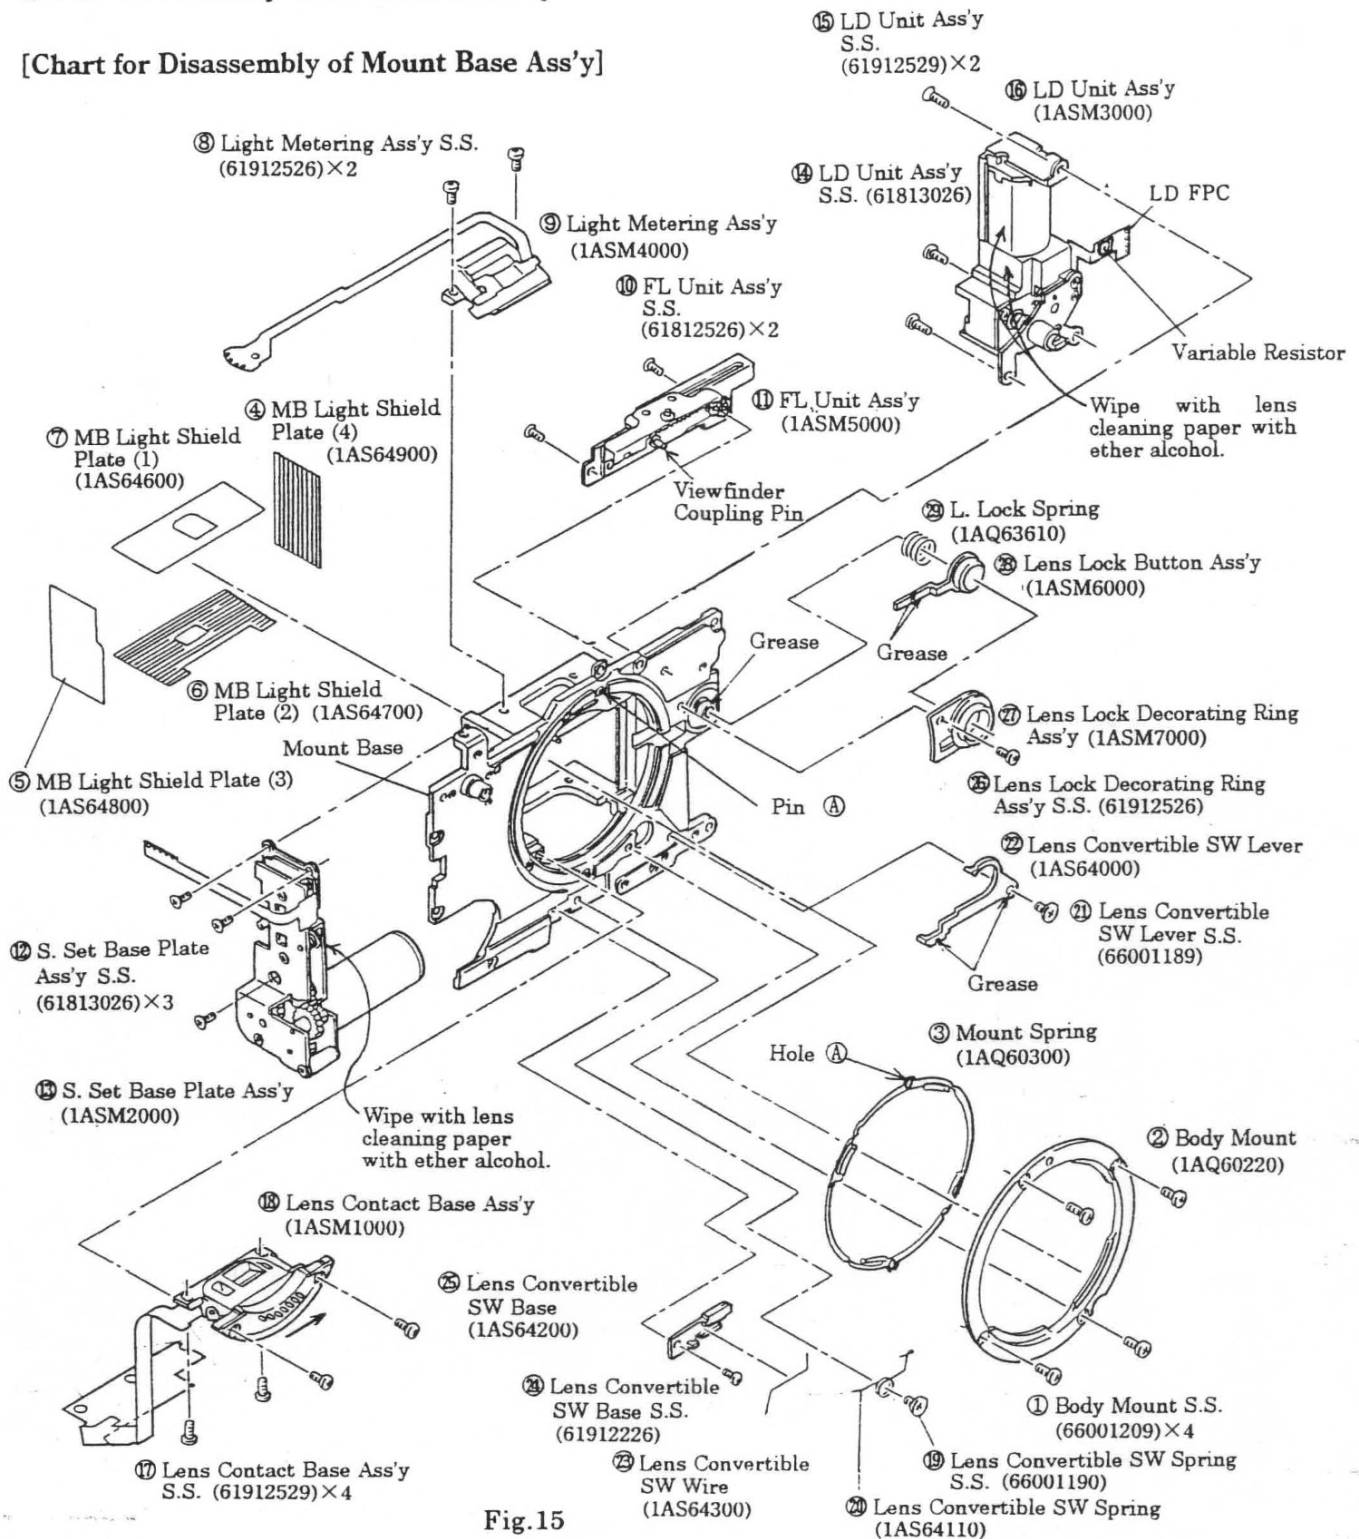

Fig.15
- 1) Remove parts in the numerical order of ① to ⑨ shown in Fig. 15.
- 3) Remove parts in the numerical order of ⑩ to ㉙ shown in Fig. 15.
- Do not use any of the MB Light Shield Plate (1) (1AS64600), MB Light Shield Plate (2) (1AS64700), MB Light Shield Plate (3) (1AS64800) and MB Light Shield Plate (4) (1AS64900) that have been peeled off once, since their adhesive strength is weak.
- Be sure to apply Grease (LOGENEST LAMBDA A-74) to the specified positions. (See Fig. 15)
- a) When installing the Lens Contact Base Ass'y (1ASM1000), push it in the direction of the arrow as shown in Fig. 15 and tighten the Lens Contact Base Ass'y Setscrews (61912529) × 4.